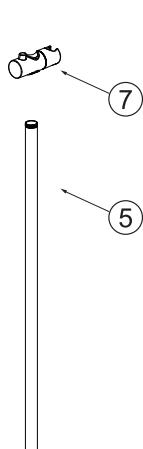

Figure 3
- a) Insert the slider over the riser rail (Figure 3).